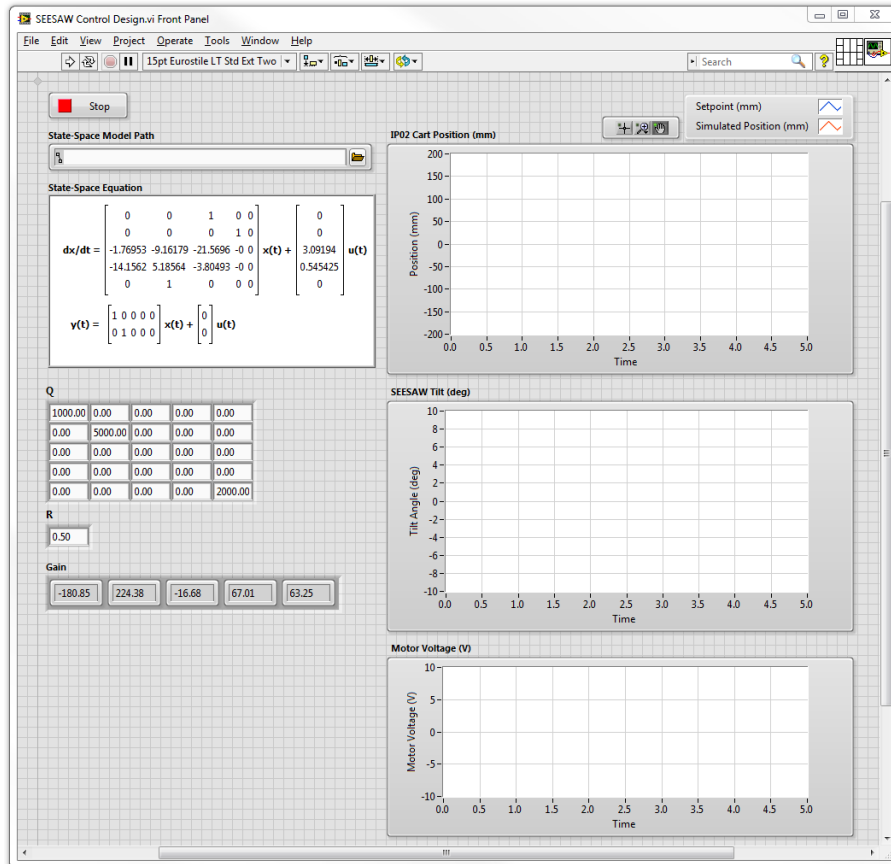

Figure 3.1: VI used to simulate SEESAW-E.
In this section we will use the VI shown in Figure 3.1 to simulate the closed-loop control of the SEESAW-E system. The system is simulated using the linear model summarized in Section 2.1. The VI uses the state-feedback control described in Section 2.2.4. The feedback gain K is found using the LQR command from the *Control Design and Simulation Toolkit* (LQR is described briefly in Section 2.2.3). The goal is to make sure the gain used successfully stabilizes the system (i.e., keeps it balanced), and does not saturate the dc motor.
6. Open the *SEESAW Control Design* VI, shown in Figure 3.1.